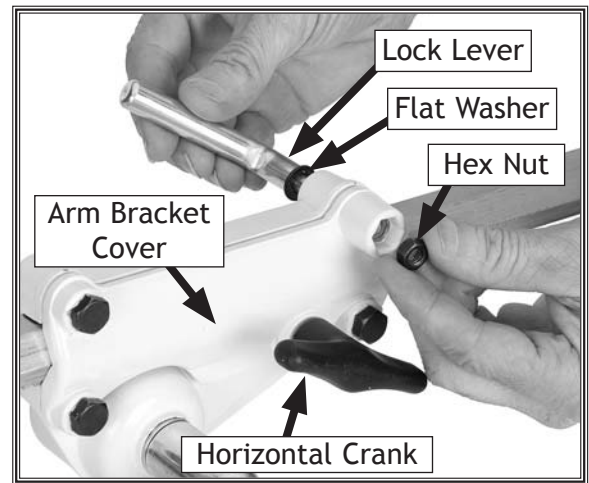

Figure 9. Assembling arm bracket.
- Secure the arm bracket cover onto the arm bracket with three M10-1.5 x 35 hex bolts and washers (**Figure 9**).
- Insert the lock lever, flat washer, and hex nut as shown in **Figure 9**.